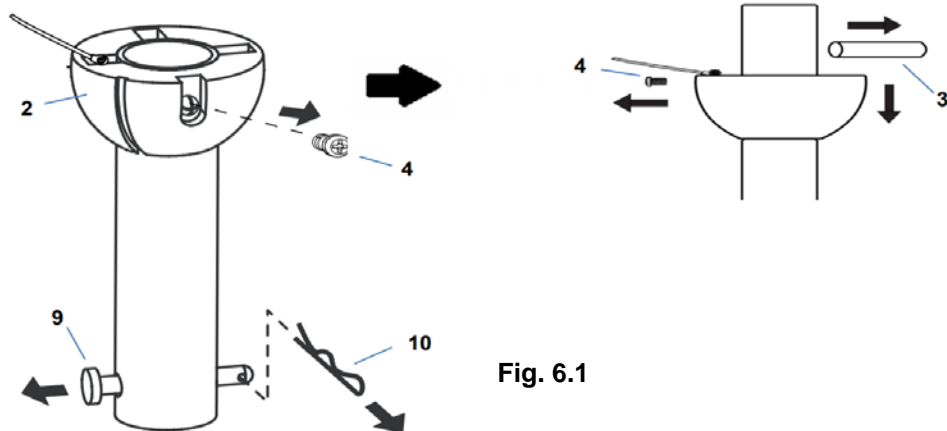

Fig. 6.1
1. Remove the hanger ball (2) and dowel pin (3) by loosening the set screws (4) from the down rod (6). Remove the hitch pin (9) by removing the lock clip (10) (**Fig. 6.1**). **NOTE: Do not discard keep these parts, they are required to reassemble later.**